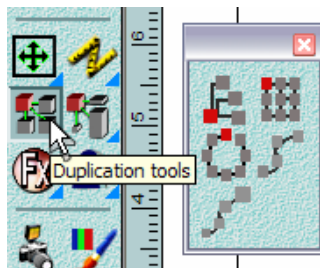

Figure 7-12
- Open the “Duplication Tools” fly-out toolbar (Figure 7-12).